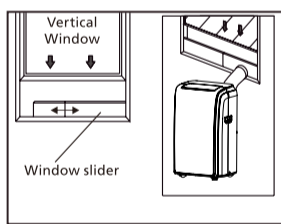

Fig. 5
- 4 Affix the hose outlet into the window slider kit and seal. (Fig.5 &6).